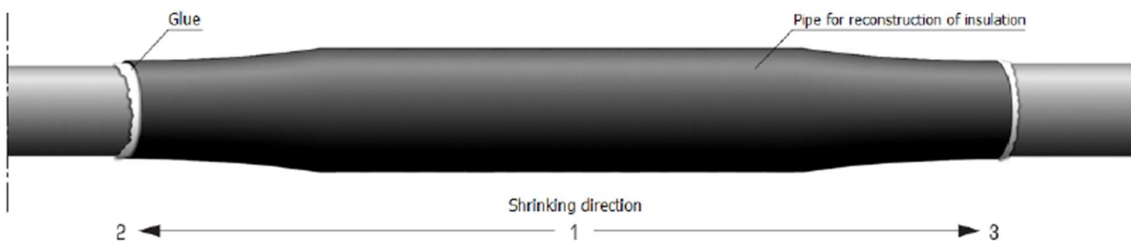

Fig. 6.
3.7. Slide the pipe for restoring the sheath so that it overlaps the sheaths of both connected cables over the same length and shrink - Fig. 6.